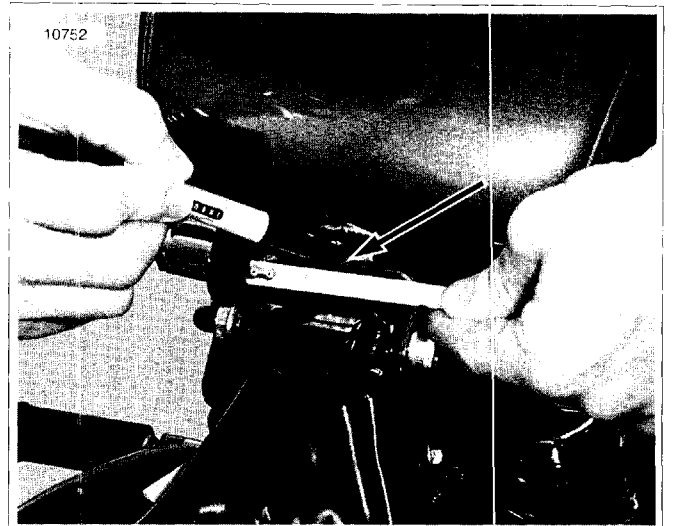

Figure 4-15. Marking Fuel Tank Centerline
1. See Figure 4-15. Measure and mark the centerline of the fuel tank at the rear of the tank.